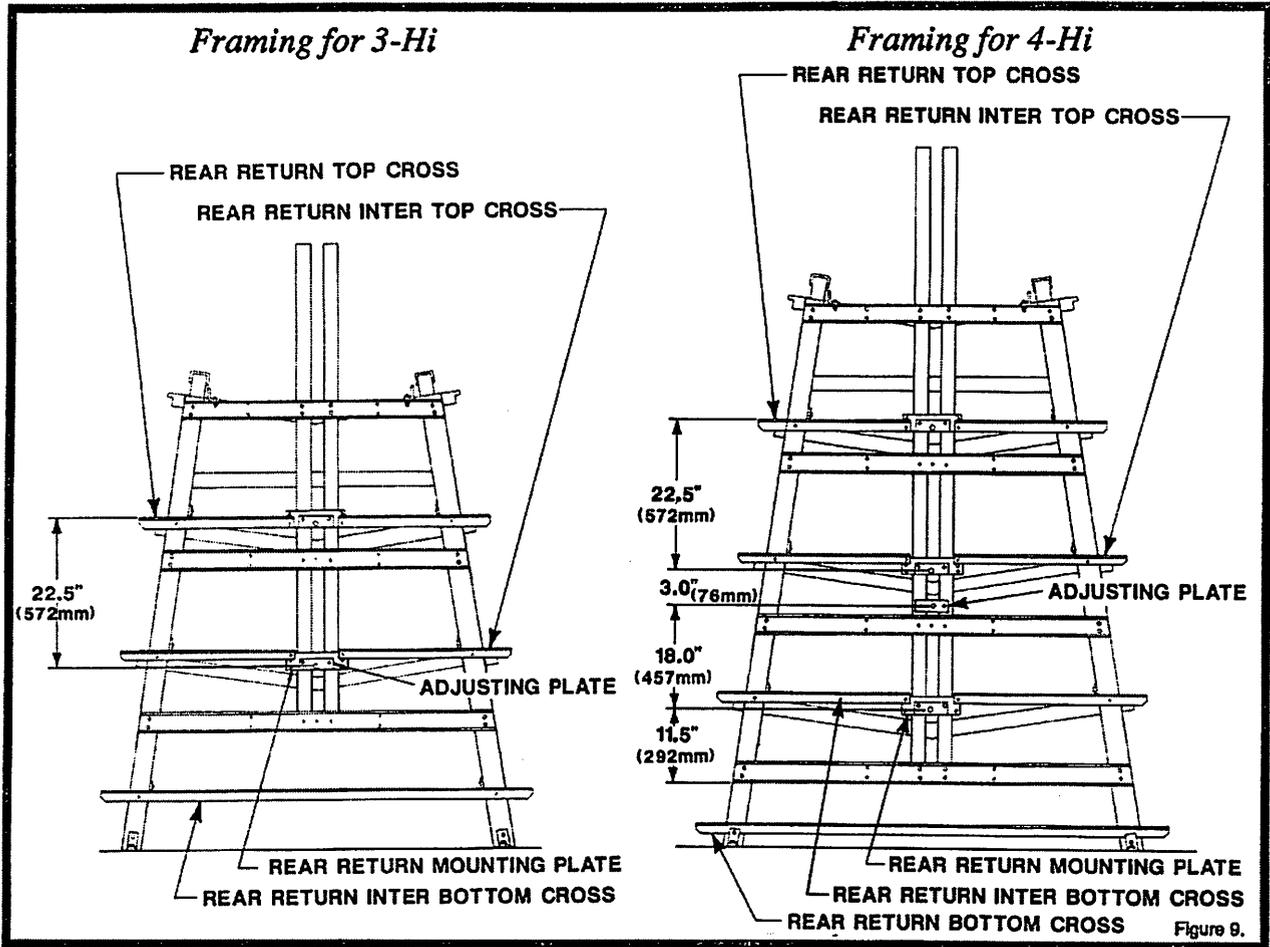

Figure 9.
The installation of the rear return framing of the 3-Hi and 4-Hi SSS Collector for FeedKar cages with Dropping Board Scrapers is similar. Refer to the appropriate 3-Hi or 4-Hi diagram in Figure 9 for proper installation.
1. Loosely bolt a Rear Return Mounting Plate and an Adjusting Plate with 5/16" bolts at locations shown in Figure 9.
2. The Rear Return Bottom Cross bolts to the bottom of the two Rear Return Legs. The Rear Return Top Cross, the Rear Return Inter Top Cross, and the Rear Return Inter Bottom Cross attach to the Rear Return Mounting Plate and Rear Return Leg as shown in Figure 9.